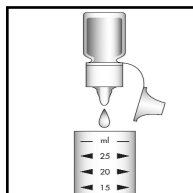

Figure 1
1. Add 7 drops of A-4201 Activator Solution to the empty dilutor snapper cup (fig. 1).
3. Add 5 drops of A-4202 Activator Solution to the dilutor snapper cup (fig. 1). Cap the cup and shake it to mix the contents well.